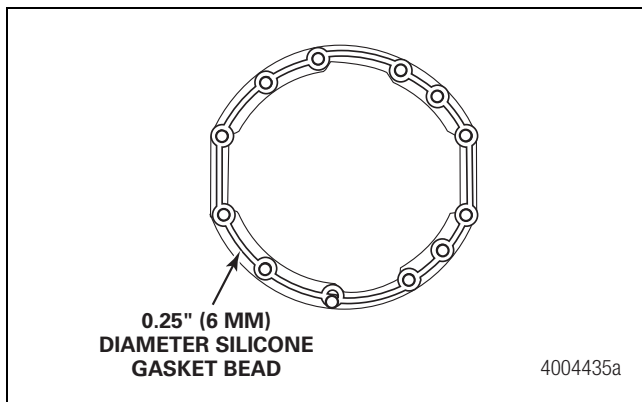

Figure 5.81
5. Apply a 0.25-inch (6 mm) continuous bead of silicone gasket material to the mounting surface of the housing where the carrier fastens. Figure 5.81.